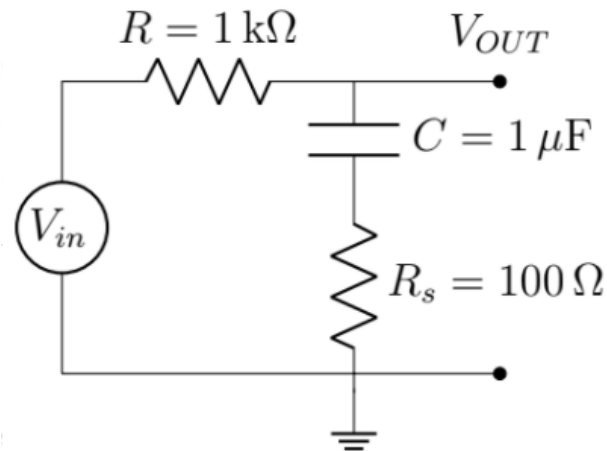

Figure 1
- (a) Calculate the operating point of the circuit in Figure 1 using '.op' command given  $V_{IN} = 2.5 \text{ V}$ .